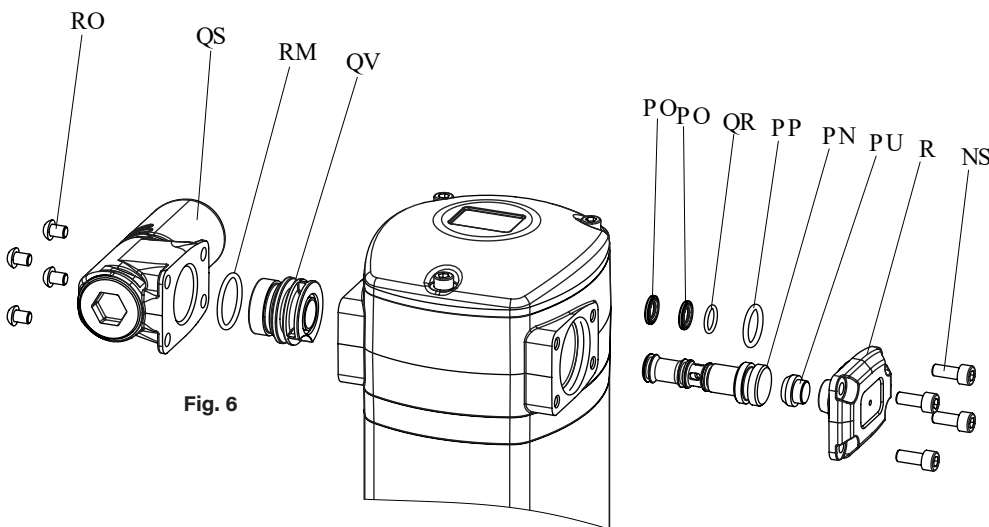

Fig. 6
AIR DISTRIBUTOR (FIG. 6)
1. Unscrew the 4 screws (16) from the cover (5) and remove it.
2. Unscrew the 4 bolts (52) from the silencer (46) and remove it together with the gasket (50) and the silencer resonator (49).
3. Using a plastic tool, gently tap the slide (31) on the side of its smallest diameter through the motor (Fig. 6), remove the slide (31).
4. Replace slide seals 2x(32), (33) and (45), or replace the complete slide (31) with its factory installed seals (kit 833815). This is the recommended option to ensure that the seals are correctly installed.